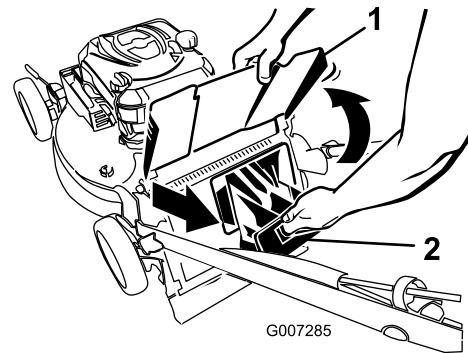

Figure 20
3. Pull out the rear discharge plug (Figure 20).